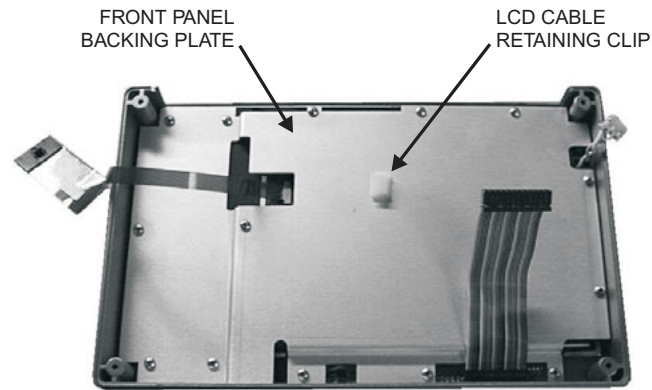

Figure 16. Front Panel Backing Plate
4. Release the LCD display cable from the retaining clip on the front panel backing plate (Figure 16).